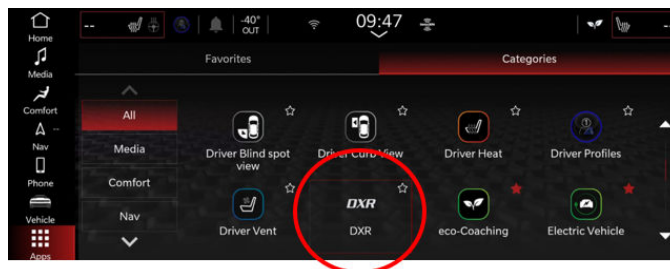

Fig. 2
5. Locate the DXR tile and select it Fig. 2.